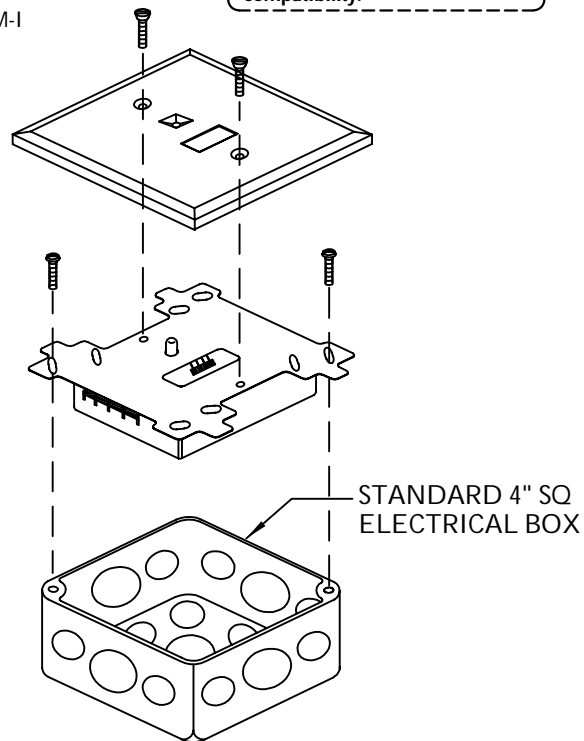

FIGURE 3. TYPICAL MOUNTING
- 2) Secure the module to a U.L. listed electrical box (supplied by installer), see Fig. 3.